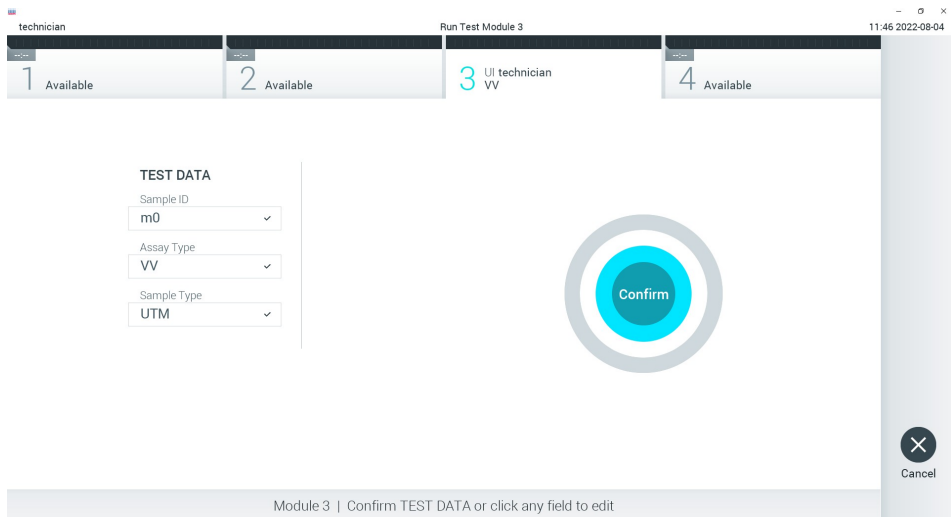

Figure 13. Confirming data entry.
17. Press **Confirm** when all the displayed data are correct. If needed, select the appropriate field to edit its content, or press **Cancel** to cancel the test (Figure 13).